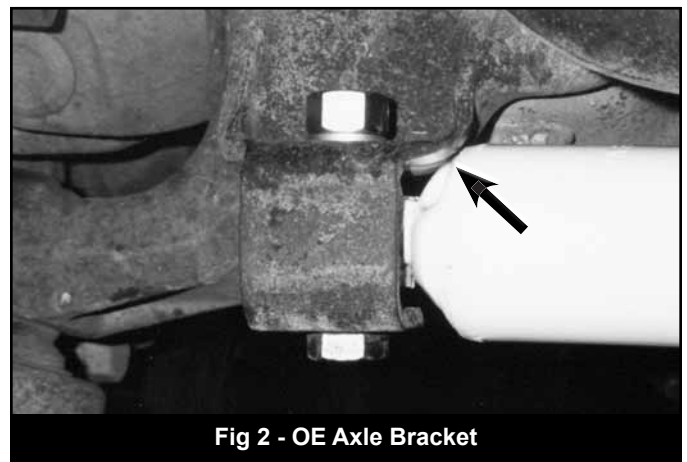

Fig 2 - OE Axle Bracket
6. Mount the base of the cylinder in the OE bracket at the axle. Check for any contact between the cylinder and the bracket. If there is contact, mark the area and grind the bracket to obtain clearance for the cylinder. (Fig. 2) Paint any bare metal.